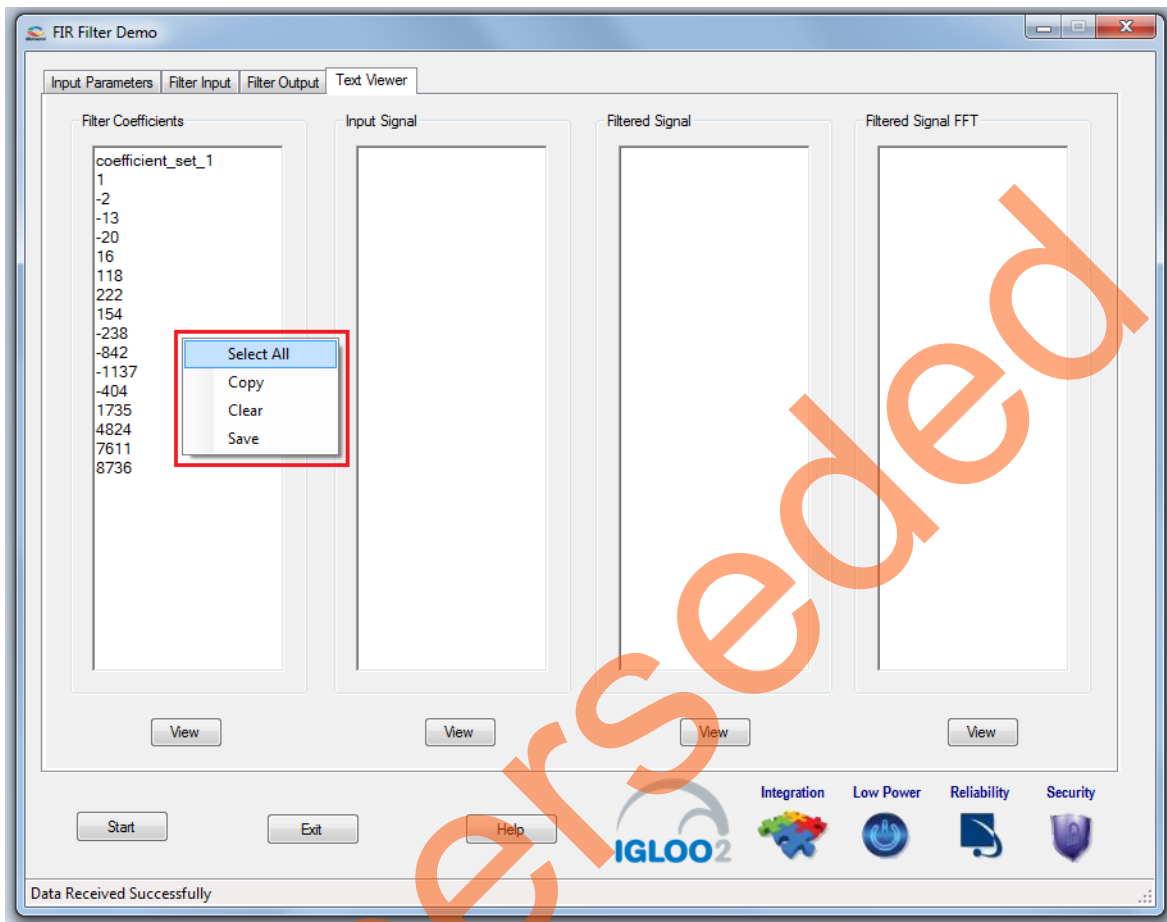

Figure 21 • Text Viewer: Coefficients Save Options
12. To save the coefficients as a text file, right-click on the **Filter Coefficients** window, it shows different options, as shown in Figure 21. Now click **Save**. Select **OK** to save the text file.